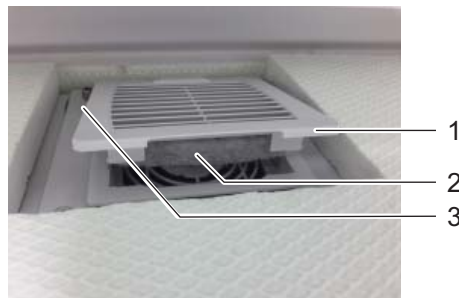

figure 5-15 Exchanging the upper filter mat
- 3 Open the upper filter mat holder with the aid of a screwdriver by levering it off and exchange the upper filter mat (see Figure 5-15,  132).